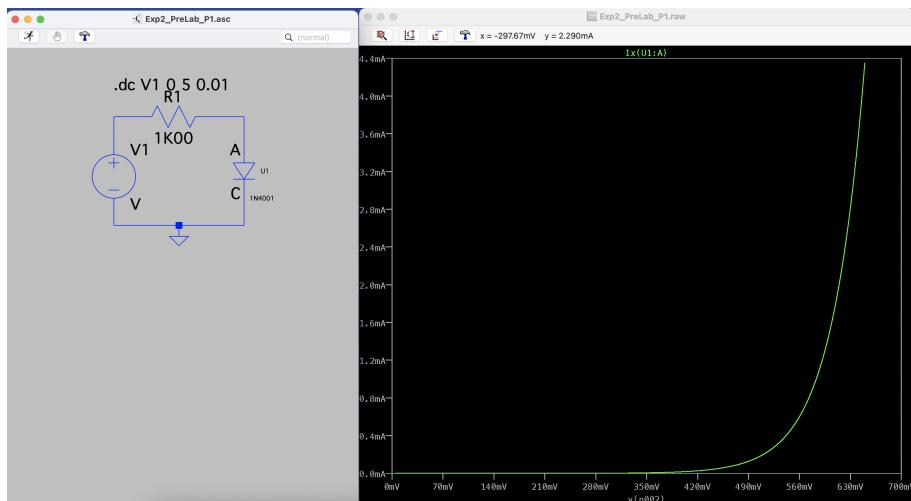

Figure 1: The current versus the voltage of the diode with a linear scale
1. Figure 1 shows the circuit built in LTSpice and the plot of the forward diode current versus the diode voltage